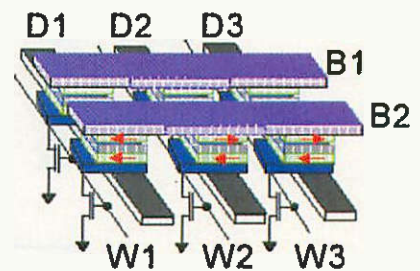
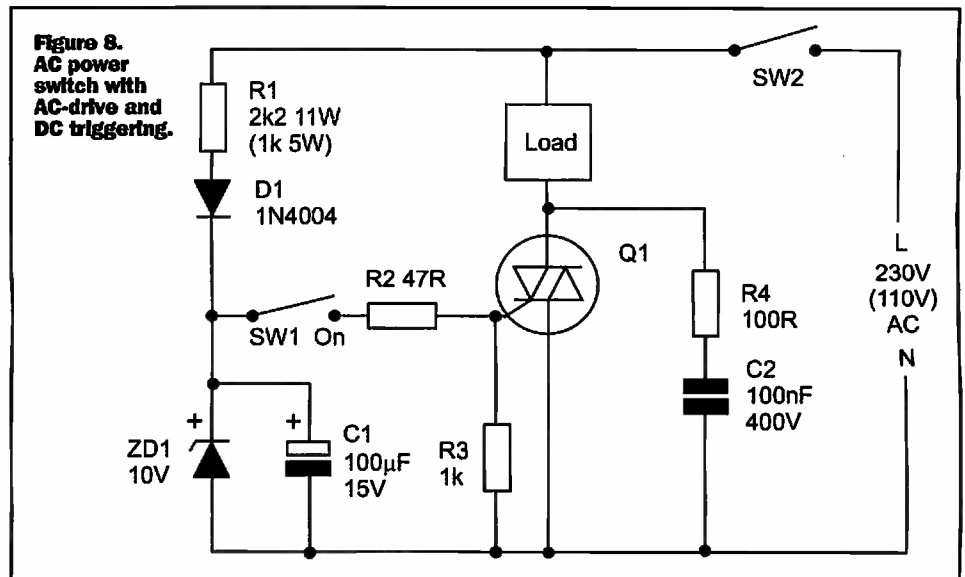

Figure 2. MTJ cell cross point matrix of bits showing digit and bit lines with isolation transistors controlled by word lines.
Figure 8. AC power switch with AC-drive and DC triggering.
Accessing the individual cells is achieved by row and column selection, see Figure 2. The digit line below the MTJ is electrically isolated, while the bit line above is in contact with the MTJ and is used for both reading
Figure 2 shows a triac used as a simple AC power switch, driving a resistive lamp load; assume that SW2 is closed. When SW1 is open, the triac acts as an open switch and the lamp passes zero current. When SW1 is closed the triac is gated on via R1 and self-latches shortly after the start of each half-cycle, thus switching full power to the lamp load; the triac automatically unlatches at the end of each AC half-cycle as the instantaneous supply voltage (and thus the load current) briefly falls to zero.
In Figure 2, the task of R1 is that of limiting the peak instantaneous switch-on gate current of the triac to a safe value; its resistance (combined with that of the load) must be greater than the peak supply voltage (roughly 350V in a 240V AC circuit, 175V in a 120V circuit) divided by the triac's peak gate current rating. This is usually given in the triac manufacturer's extended data sheets.
Note in Figure 2, and in most other triac circuits shown in this mini-series, that - for safety reasons - the load is wired in series with the AC supply's neutral (N) line, and master on/off switch SW2 can isolate the entire circuit from the live (L) line.
The simplest type of triac power switch is that of Figure 2, in which the triac is gated on via R1 when SW1 is closed; only 1V or so is generated across the triac when it is on, so R1 and SW1 consume very little mean power; Figure 3 shows the same circuit fitted with a 'snubber' network. There are many useful variations of these basic circuits. Figure 8, for example, shows a version that can be triggered via an AC-derived DC supply. C1